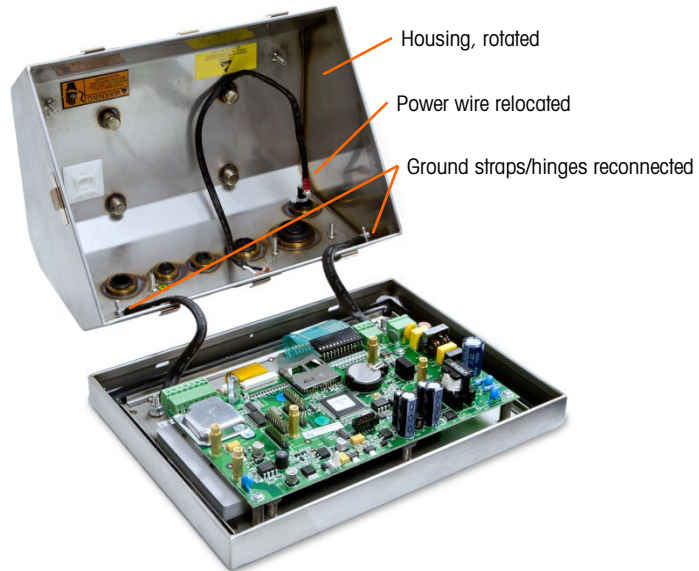

Figure A-5: Housing Reversed
13. Carefully rotate the housing 180 degrees and use the nuts removed in step 4 to reattach the two grounding straps to the studs near the grip bushings (Figure A-5). Tighten the two nuts.